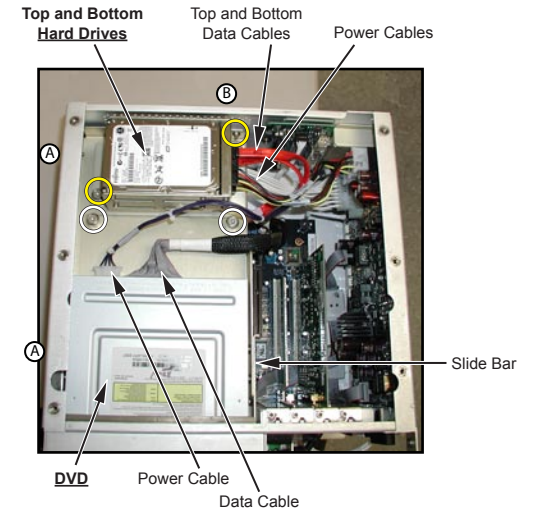

Figure 3-6 DVD and Two Hard Drives
- 4.2 Unplug Power and Data cables from DVD (see Figure 3-6).
- 4.3 Loosen two captive setscrews securing DVD player to mounting plate (white circles in Figure 3-6).
- 5.2 Unplug Power and Data cables from hard drives (see Figure 3-6). The Data cables must be properly labeled as TOP and BOTTOM to ensure they are replaced into the correct drives.
- 5.3 Loosen two captive setscrews securing hard drives to mounting plate (yellow circles in Figure 3-6).
- 6.4 Remove two screws securing mounting plate to side of Host (labeled A in Figure 3-6).
- 6.5 Remove one screw securing mounting plate to end of Host (where screen/filter was mounted, and labeled B in Figure 3-6).
- 6.6 Loosen two screws securing slide bar to side of mounting plate, then slide the bar backwards to release mounting plate from Host (location of slide bar shown in Figure 3-6).